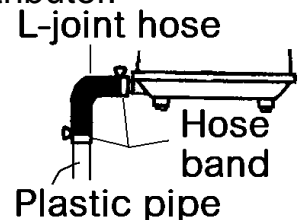

Fig.1
- Be sure to secure connection with a hose clamp (Ref: Fig 1).